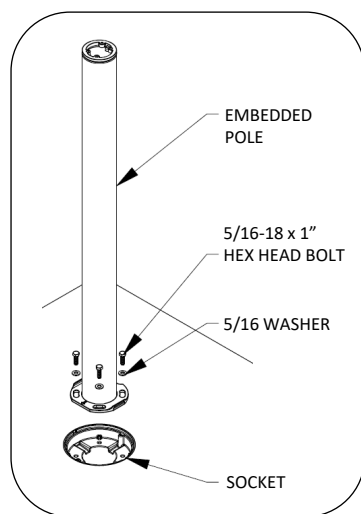

Fig. 5 – Install cover plate
3. Set pole in socket and attach using hex bolts and washers as shown in Fig. 5. Align arrow on base plate with front location of path light.